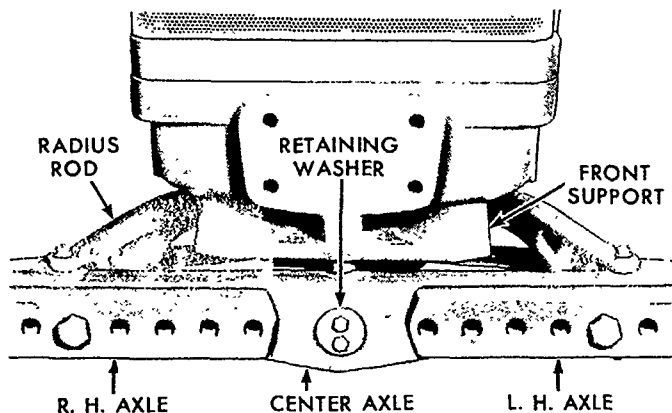

Figure 27
3. Remove the two bolts and lock washers securing the front axle retaining washer, Figure 27, to the axle front pin. Remove the retaining washer.
13. Remove the nut securing each connecting rod to the steering center arm, Figure 27. Remove the dust seals from the connecting rod end assemblies.
15. Remove the nuts and bolts securing the radius rod to the center axle section, Figure 27. Remove the radius rod.
12. Position the retaining washer, Figure 27, over the